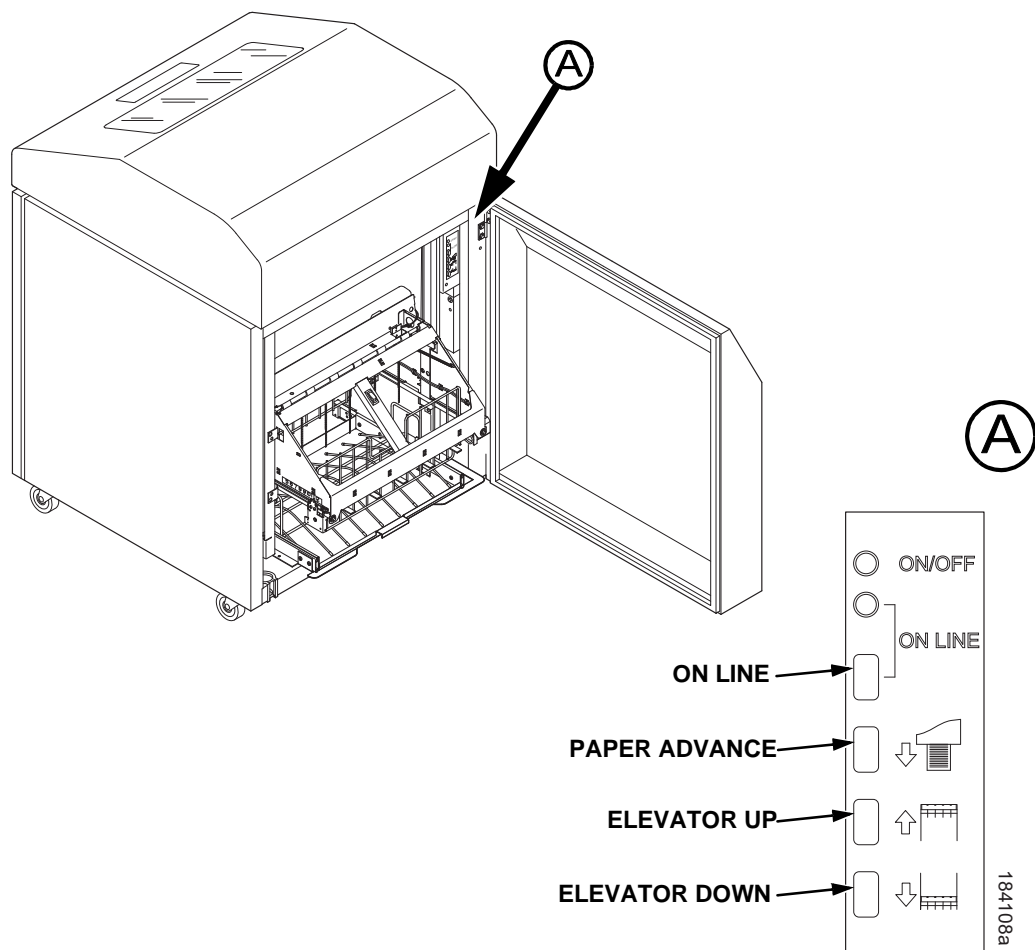

Figure 68. The Rear Control Panel
2. On the rear control panel, press the **ON LINE** key to take the printer offline. (Figure 68.)
3. Press the **ELEVATOR UP** key and wait for the elevator assembly to reach the top of its travel. (Figure 68.)